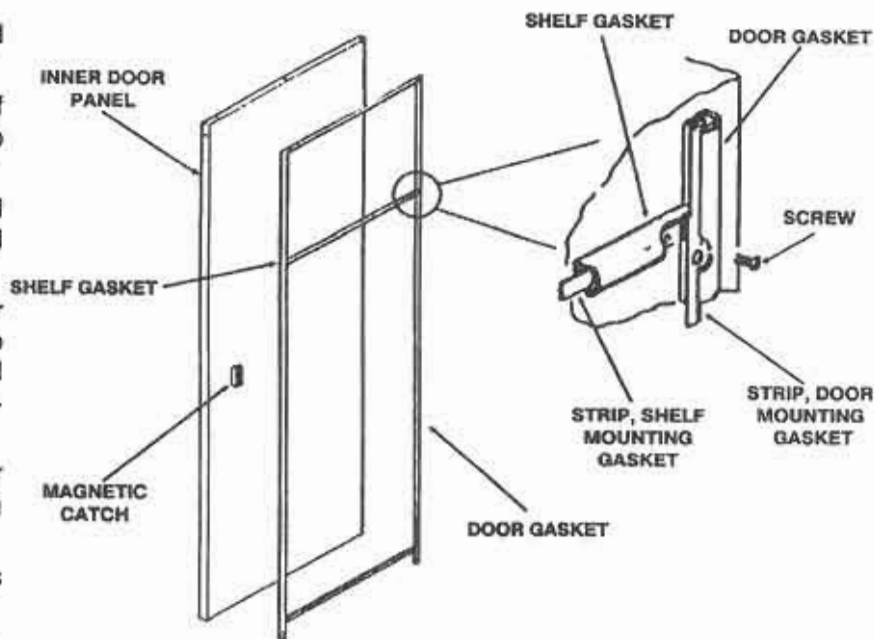

Figure 3-14. Door and shelf gaskets.
- (1) Loosen the two hex head screws on both the upper and lower hinge mounting brackets.
- (2) Arrange blocking under the lower edge of the door to align it with the front of the cabinet.
- (3) Tighten the hex head screws.
- (4) Ensure that the door alignment is correct or repeat steps (1) through (3) again.
b. Gasket removal and replacement (fig 3-14).
- (1) Ensure that the warming cabinet is off by depressing the power off switch.
- (2) Open the door fully and stabilize it with blocking.
- (3) Lift the edge of the shelf gasket to expose the mounting strip and the Phillips-head screws.
- (4) Remove the screws and then remove the mounting strip and shelf gasket.
- (5) Lift the edge of the door gasket to sequentially expose the mounting strips and the Phillips-head screws. Remove the screws, mounting strips, and door gasket.
- (6) Clean the edge of the inner door panel with a mild cleaning agent.
- (7) Insert the mounting strips into the new gaskets.
- (8) Install new gaskets by sequentially replacing the screws around the gaskets.